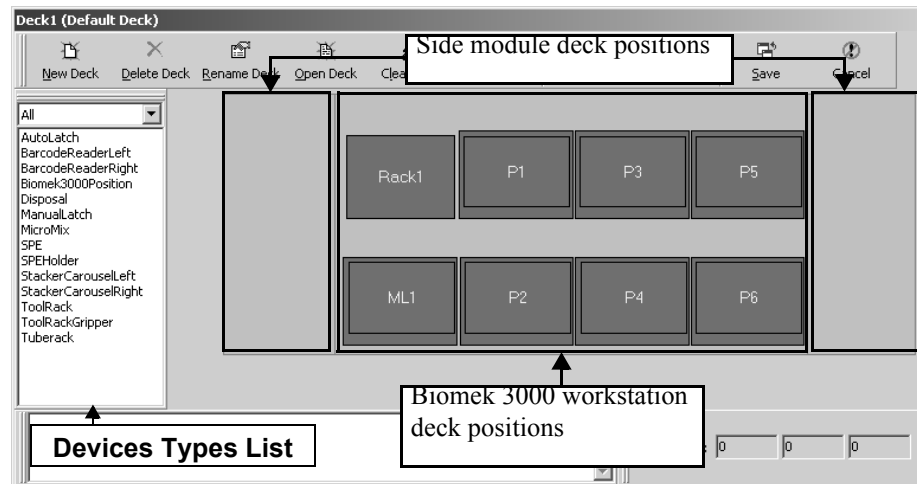

Figure 3-15. Deck Editor
1. Choose **Instrument>Deck Editor**. **Deck Editor** appears (Figure 3-15).